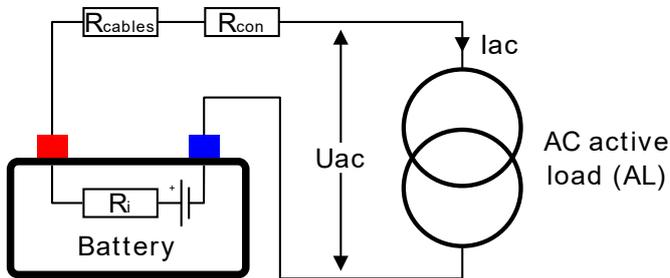

Figure 6 Internal resistance measurement
The battery internal resistance ( $R_i$ ) is measured by draining a defined AC current through an active load (AL) from the battery and measuring the AC voltage drop across the load terminals. The principle is represented in Figure 6.